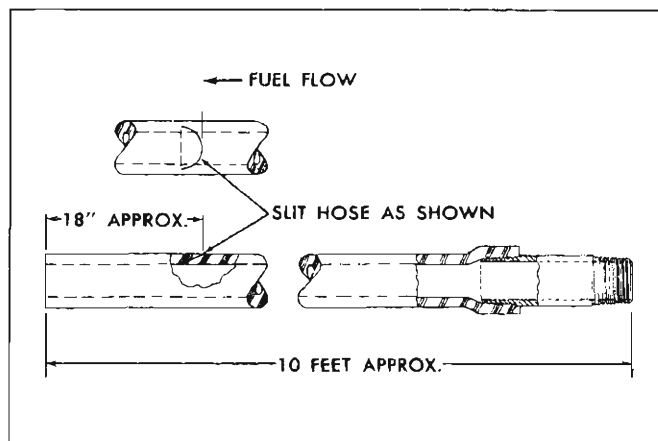

Fig. 13—Siphon Construction
1. Obtain approximately 10 feet of 3/8" I.D. hose and cut a flap-type slit 18" from one end. Make this cut on the hose in the direction toward the shorter end (See Figure 13).